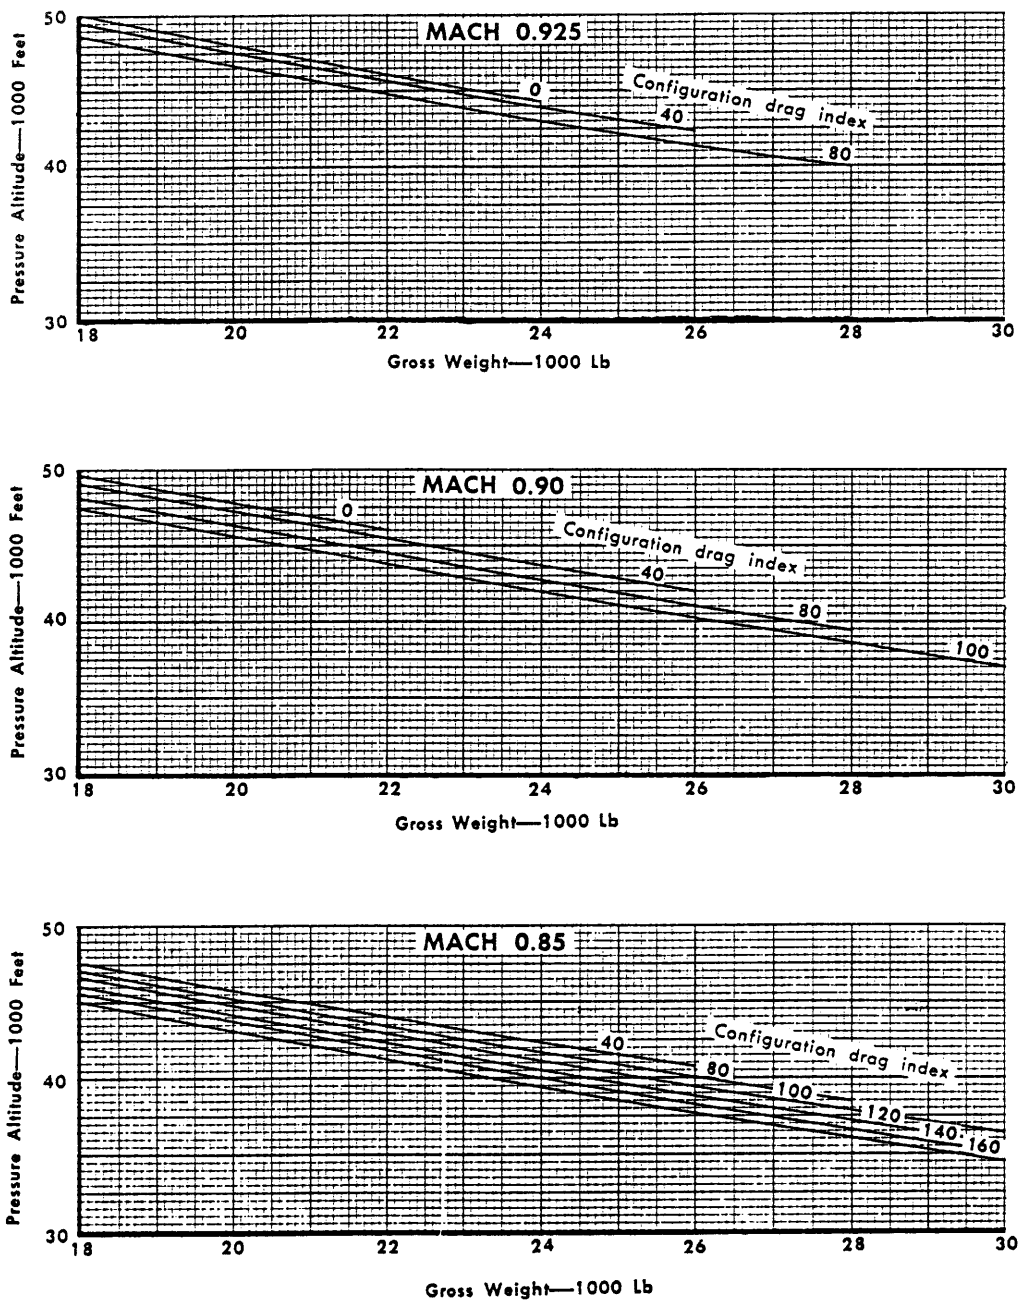

Figure A3-3
- c. Enter Figure A3-3 at 23190 pounds and read an estimated combat ceiling of 45000 feet.
- f. Reenter Figure A3-3 at 22060 pounds and read a corrected combat ceiling, 45800 feet.